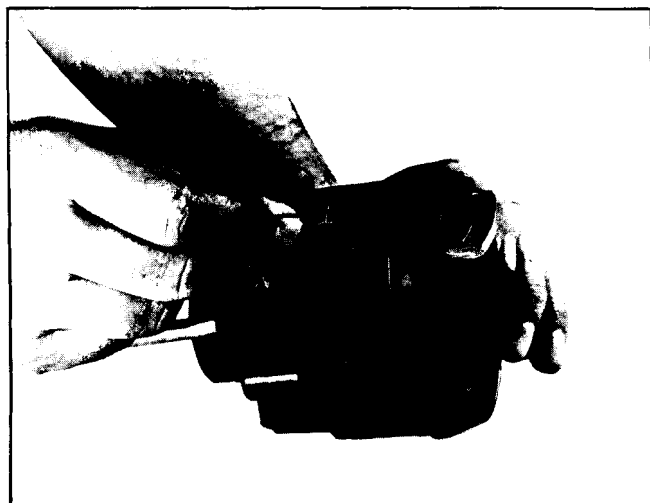

Fig. 9-58 Removing or Installing Tilt Lever Opening Shield
1. Remove tilt lever opening shield from housing (Fig. 9-58).
17. Install tilt lever opening shield in housing (Fig. 9-58).